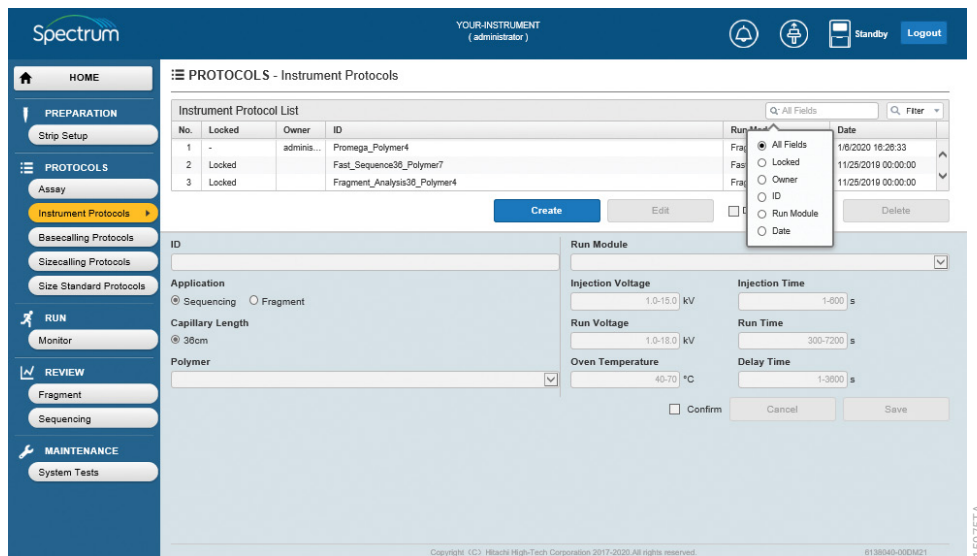

Figure 27. Instrument Protocol List select search field radio button window.
2. Data in the Instrument Protocol List may be searched and filtered (i.e., searched for based on specific values and filtered such that only instrument protocols that meet those criteria are displayed in the Instrument Protocol List). Select the magnifying glass icon on the Select Search Field box to display a window with radio button selections that allows you to search by All Fields, Locked, Owner, ID, Run Module or Date (Figure 27).